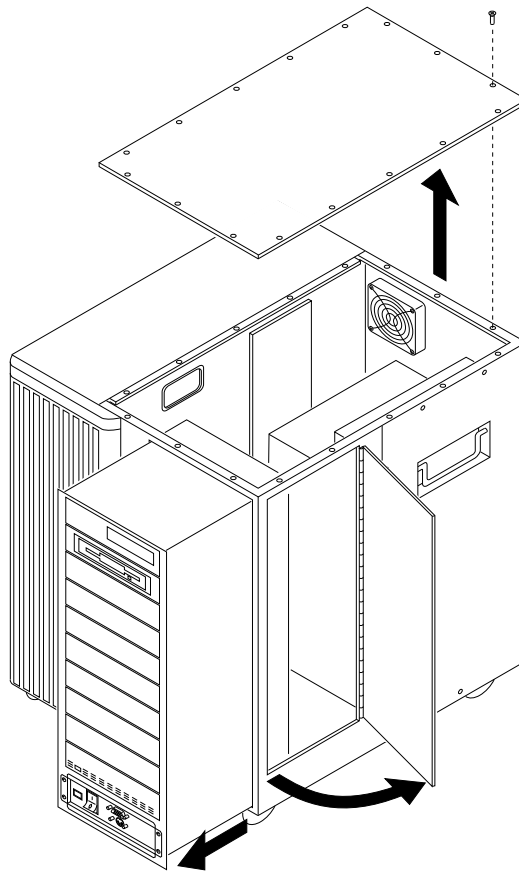

Figure A-8. Front View of MAP/100 with Doors and Desk Side Panels Removed
10. Loosen the four 1/4-turn fasteners on the front of the peripheral bay and the seven 1/4-turn fasteners on the right side door as shown in Figure A-8.